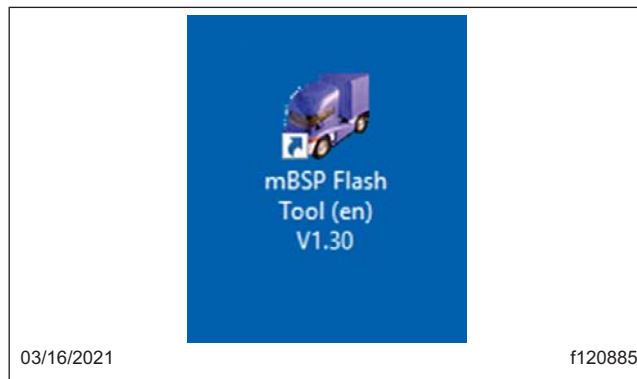

Fig. 25, Opening the mBSP Flash Tool
10. Double-click the mBSP flash tool shortcut titled 'mBSP Flash Tool (en) V1.30' to open the software. See Fig. 25.